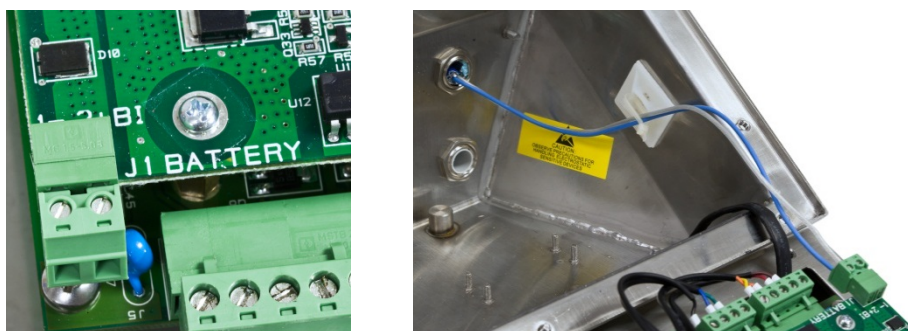

Figure 3-32: PAB Battery Pack Connector (left) and Battery Cable Installation
10. Finally, the two wires from the NiMH battery connection cable terminate at the two terminals of the J1-BATTERY port on the IND560x-PAB (Figure 3-32). The wire color for each of these connections is listed in Table 3-10. Secure any loose battery pack wires to the housing of the IND560x as shown in Figure 3-32.